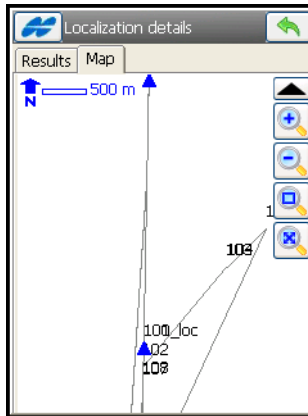

Figure 8-12. Localization Map
- The *Map* tab (Figure 8-12) displays the job graphically with the localization points marked by blue triangles.